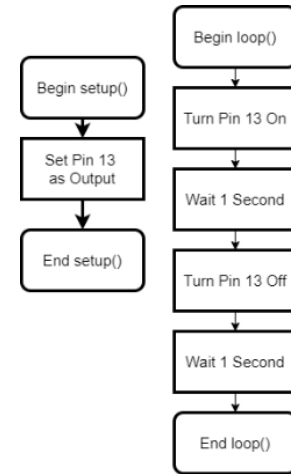

Figure 2: Flowchart for the first simple blink program.
2. We will write a simple program to blink that LED on for 1 second and then off for 1 second. The flow chart for such a program is shown in Figure 2.